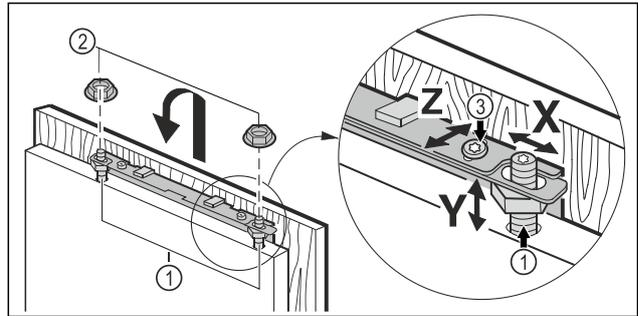

Fig. 46
- ▶ Hook the unit door onto the adjustment bolts Fig. 46 (1) and screw the lock nuts Fig. 46 (2) loosely onto the adjustment bolts.
- ▶ Align the unit door in height Y and in the lateral inclination: Adjust the adjustment bolt Fig. 46 (1) with a screwdriver.
- ▶ Tighten the lock nuts Fig. 46 (3).